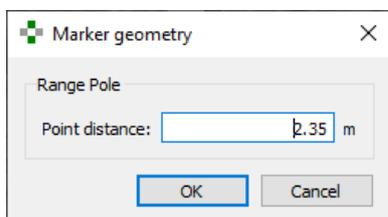

Figure 13: Dialog for the input of the target distance for the Normalizer Mode.
12. A dialog window appears (Figure 13) after clicking the “Save” button. Check the preset target distance (point distance). The preset value is 2.35 m which corresponds to the standard *Range Pole* assembly suggested. If, for any reason, another assembly has been used, the distance value has to be adjusted to the used target distance. Enter the used target distance in the set unit.